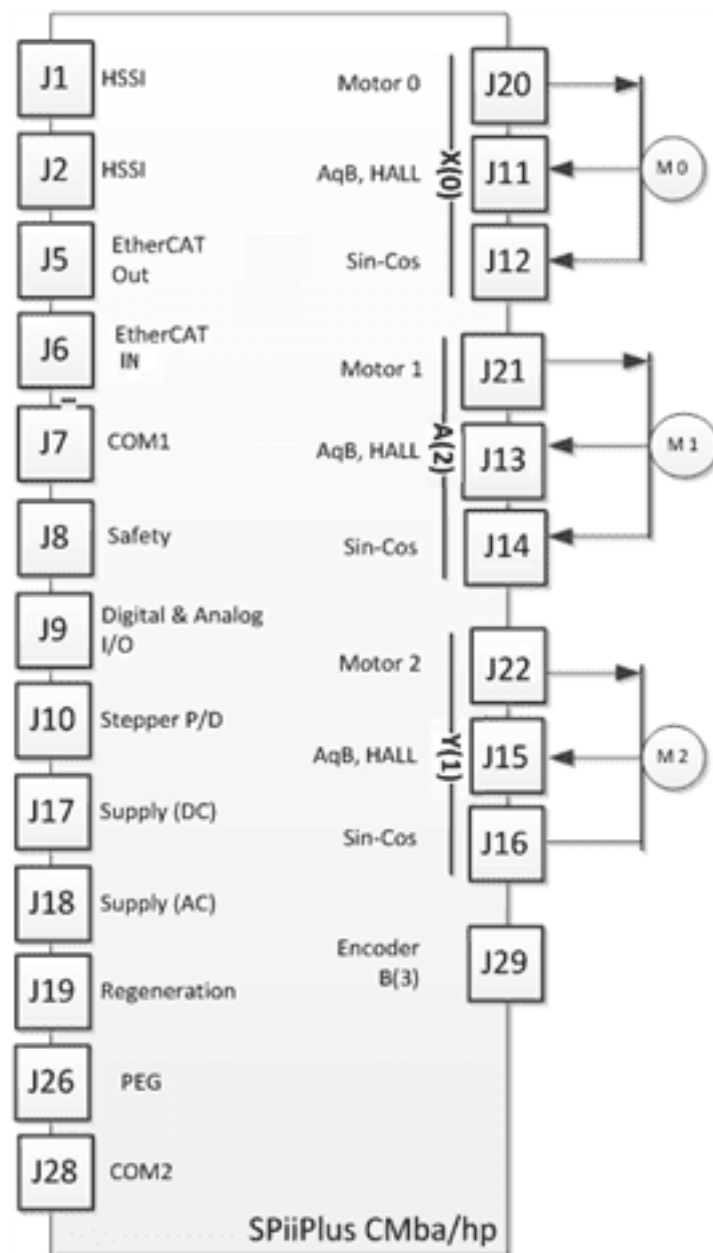

Figure 2-4. UDMHP/BA Connector Diagram
1. Connect the supply and control cables (see Figure 2-4) using pre-wired cables, according to the recommended connectors and pin-out detailed in UDMhp/ba Connectors.